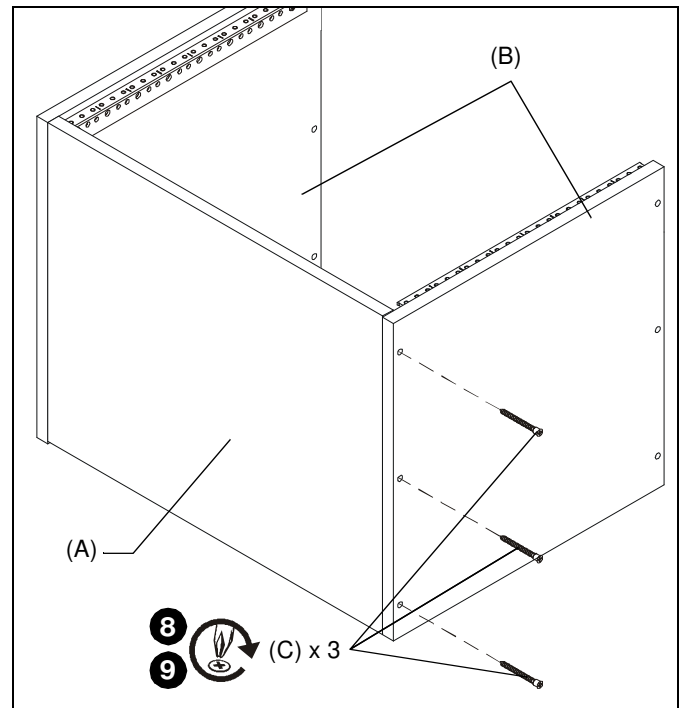

Figure 3
8. Attach remaining side panel to assembly using one 7mm x 50mm wood screw (C) into pre-drilled hole on side panel. Fasten the screw all the way into the panel but leave somewhat loose until all screws are installed. (See Figure 3)